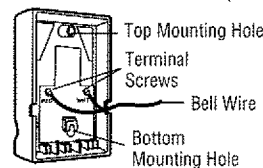

Figure 4
- Remove white cover by gently prying on a side corner near the top of the cover with a small flat head screwdriver (Figure 4). Fasten with 6ABx1-1/4" self-tapping screws (drywall installation) or 6-32x1" machine screws (into gang box) as follows: